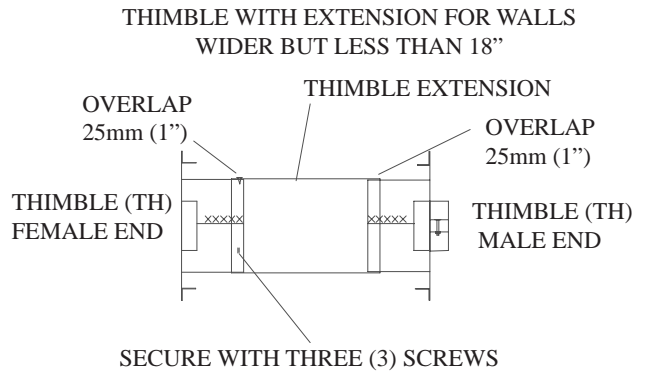

FIGURE 5
2.7 A WALL THIMBLE must be used when the VENT passes through a combustible wall. The THIMBLE splits into two sections. Install the section with the support clamp from inside the building. Install the other section from outside the building. Fasten the THIMBLE to the wall with nails or screws at the THIMBLE's corners. The WALL THIMBLE is to be used on walls ranging in width from 5" - 9". If a wall 9" to 18" (max) in thickness is to be passed through, it is permissible to field fabricate a WALL THIMBLE EXTENSION of galvanized sheet metal of 26 gauge (see FIGURE 5). The EXTENSION can be trimmed so that it overlaps each of the THIMBLE sleeves by at least 75mm (1"). It is to be attached to the female end (non crimped) of the THIMBLE with three (3) sheet metal screws. Proceed with the installation as described above.